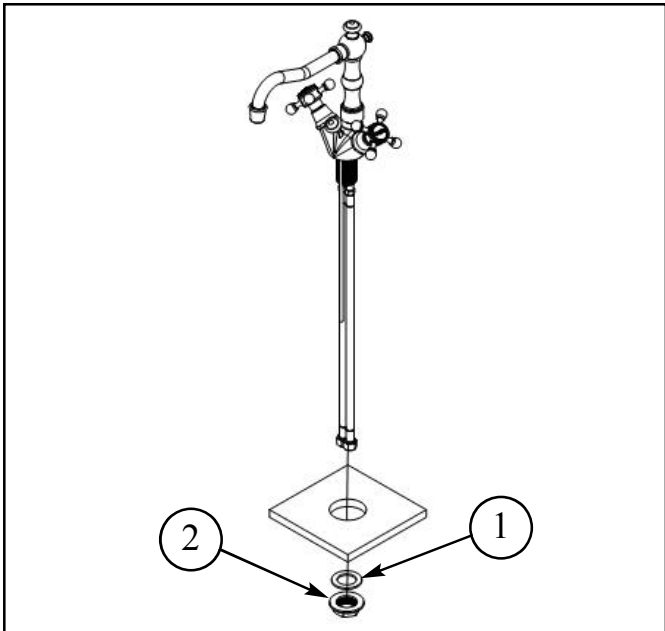

Figure 1
1. Place the spout hoses, one at a time, and secure spout into place with WASHER (1) and MOUNTING NUT (2). See Fig. 1